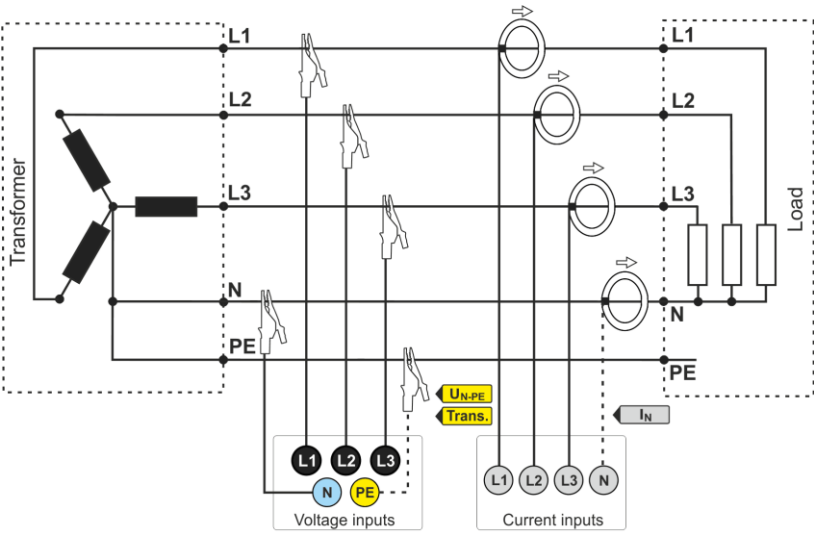

Fig. 18. Wiring diagram – 3-phase wye with a neutral conductor.
- 3-phase 4-wire wye with a neutral conductor (Fig. 18),
*In order to correctly calculate total apparent power S_e and total Power Factor (PF) in a 4-wire 3-phase system, it is necessary to measure the current in the neutral conductor. Then it is necessary to activate option **N-conductor current** and connect 4 probes, as shown in Fig. 18. Another option is to turn on analytical calculation of current I_N . More information on total apparent power S_e - see Power Quality Guide.*